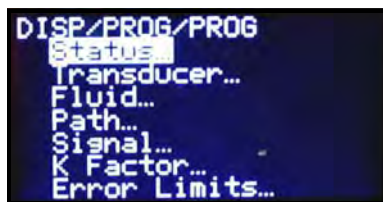

Figure 34: The PROG Menu
3. Use the [▲] and [▼] keys to scroll to the desired channel and press [ENT]. The screen appears similar to Figure 34 below.